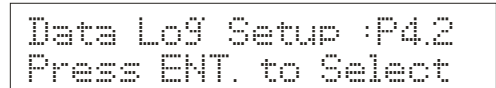

Figure 170
2. Use  $\Delta/MI$  key to scroll to program *Data Log Setup: P4.2*. See **Figure 170**.